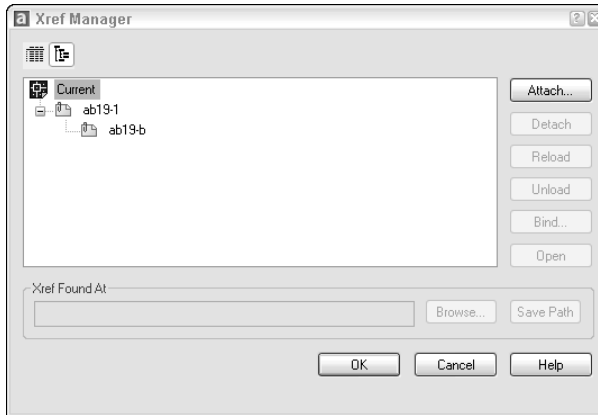

Figure 19-3: Tree view shows nested xrefs clearly.
9.  To help you visualize the relationships among the three drawings, choose External Reference from the Reference toolbar. The Xref Manager lists both drawings. Click Tree View at the top of the dialog box. AutoCAD now lists the two xrefs in a tree structure, showing their relationship more clearly, as shown in Figure 19-3. Click Cancel.